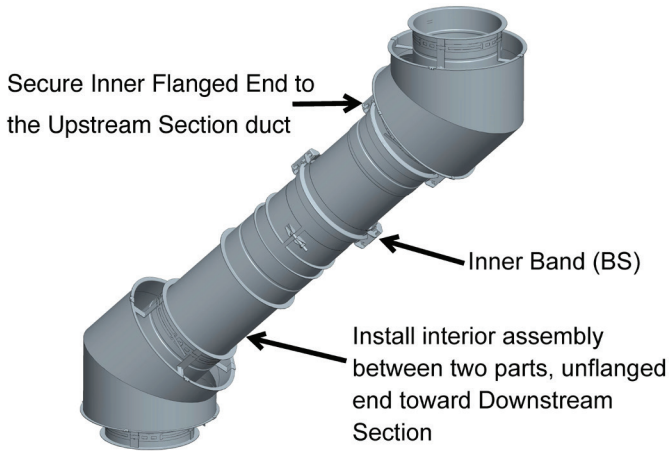

Figure 36 - Step 4-5- Install the inner LV and secure the outlet end flange
Step 5 - Assemble the outlet end sliding innerwall to the outlet end section as a regular section (See JOINT ASSEMBLY section). See Figure 36.